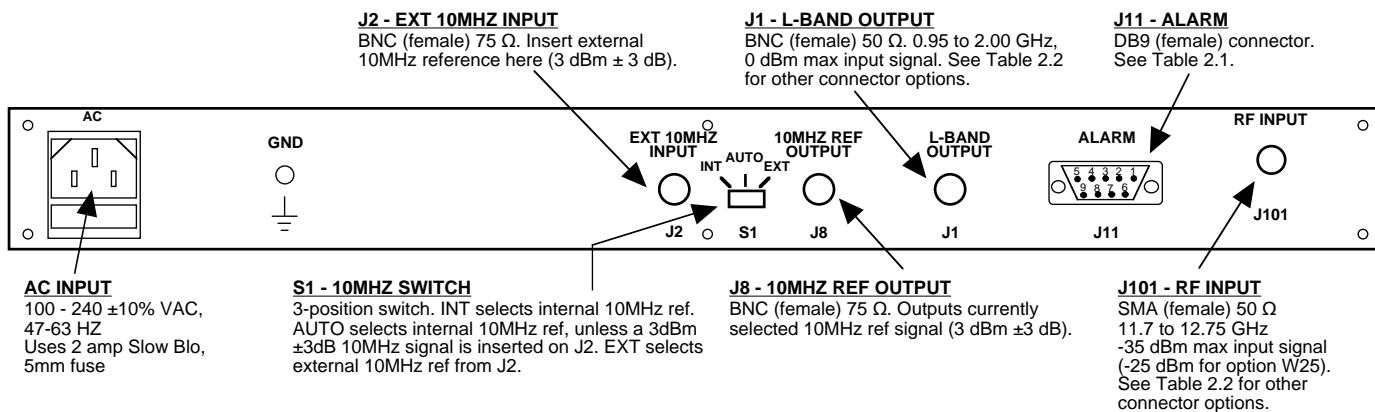

FIGURE 2.1 2116-117 Rear Panel I/O's
Figure 2.1 shows the input and output connectors on the rear panel.
1. Connect a -55 dBm to -35 dBm signal (-45 dBm to -25 dBm for Option W25) for to RF INPUT, J101 (Figure 2.1).
5. Select either INT (for internal 10MHz ref), AUTO (for internal 10MHz ref UNLESS an external 10MHz, 3 dBm signal is connected to J2), or EXT (for external 10MHz, 3 dBm ref that is inserted at J2) on rear panel switch S1 (Figure 2.1).
7. Check that a 10MHz, 3 dBm \pm 3 dB signal is present at the 10MHZ REF OUTPUT (J8) (Figure 2.1).